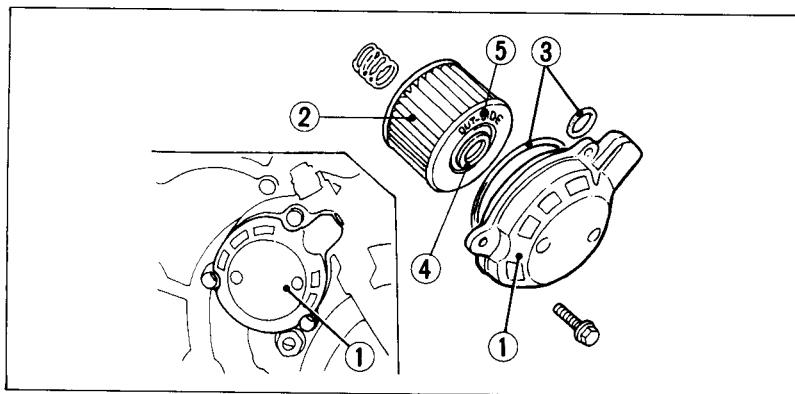

Fig. 4-13	(2) Oil filter	(4) Rubber seal
3. Remove the oil filter cover (Fig. 4-13) by removing the screws. Let the remaining oil drain out. Discard the oil filter (2).
4. Check that the oil filter cover O-rings (3) are in good condition and then install a new oil filter. Use the proper Honda oil filter or equivalent. Other filters may not filter impurities from the oil properly.